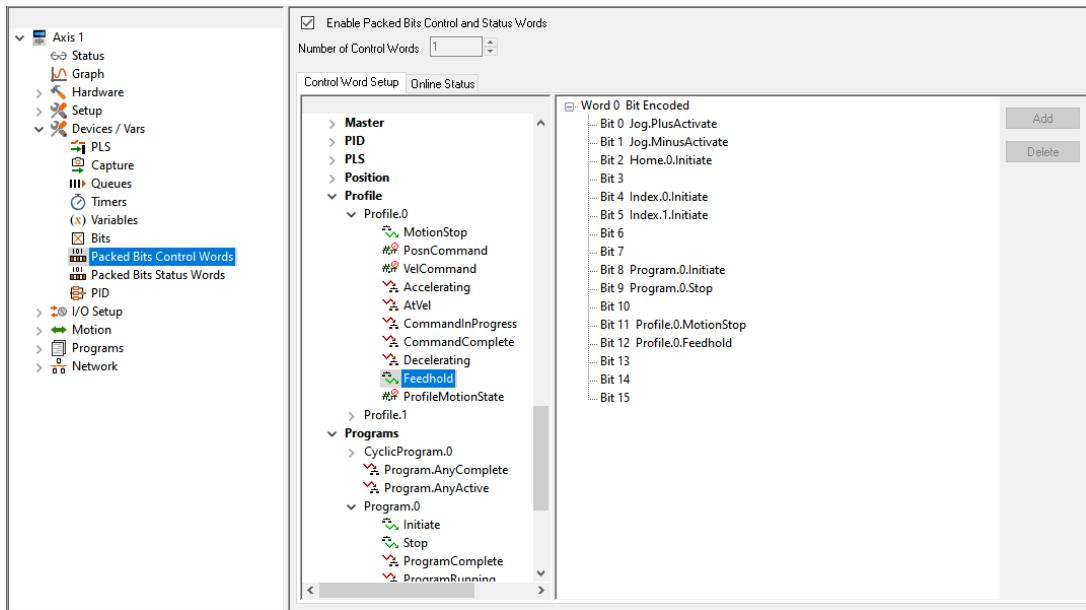

Figure 8-73: Packed Bits Control Words View
Control Words handle data being written to the user defined drive bit-level parameters. The user configures the Control Word(s) by dragging-and-dropping the desired bit-level parameters they wish to write into the Control Word mapping. Figure 8-73 shows the Packed Bits Control Words view onto which the user has dragged several motion initiate parameters.
**Add Button:** Using the Add Button method, the user navigates the parameter tree to find the desired parameter they wish to control. Once the desired parameter is found, the user left clicks on the parameter to highlight it. Then the user clicks on the desired bit of the Control Word to highlight it. Once both are highlighted, the **Add** button on the right side of the view (see Figure 8-73 above) should become available. Simply click the **Add** button and the highlighted parameter will be assigned to the highlighted bit on the Control Word.